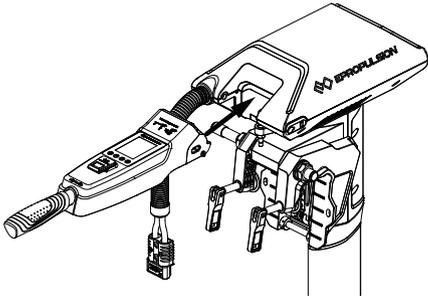

Figure 2-4
1. Install the tiller to the machine (Figure 2-4).